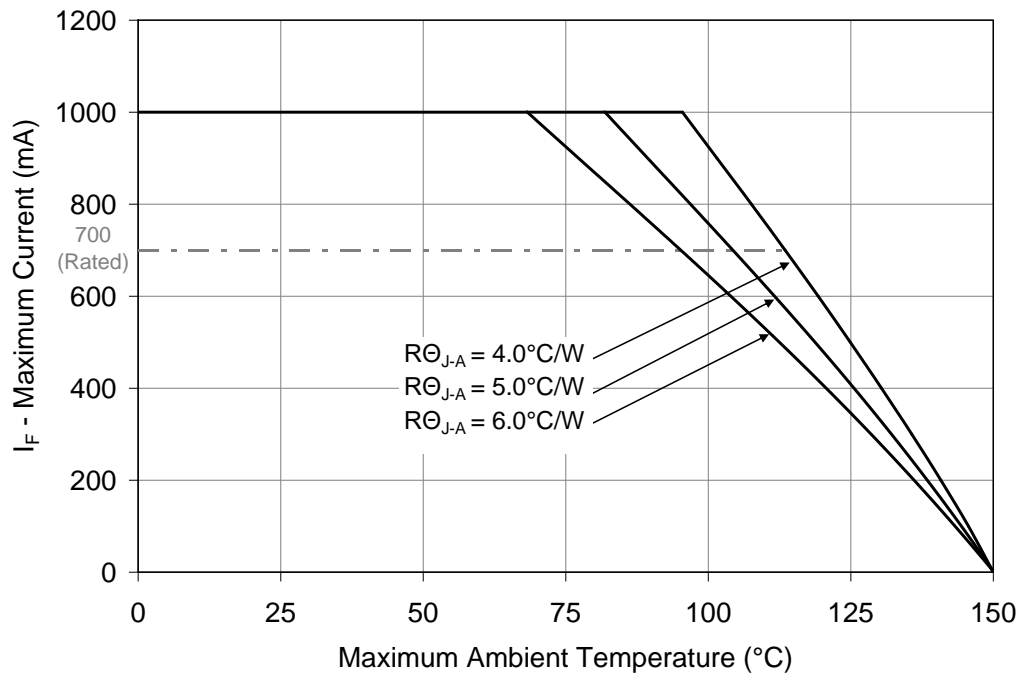

Figure 11: Maximum forward current vs. ambient temperature based on $T_{J(\text{MAX})} = 150^{\circ}\text{C}$.
- Maximum DC forward current is determined by the overall thermal resistance and ambient temperature. Follow the curves in Figure 11 for current derating.
Notes for Figure 11: